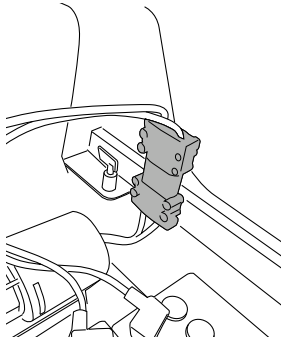

fig. 25
- unplug the battery connector from the machine (fig. 25).